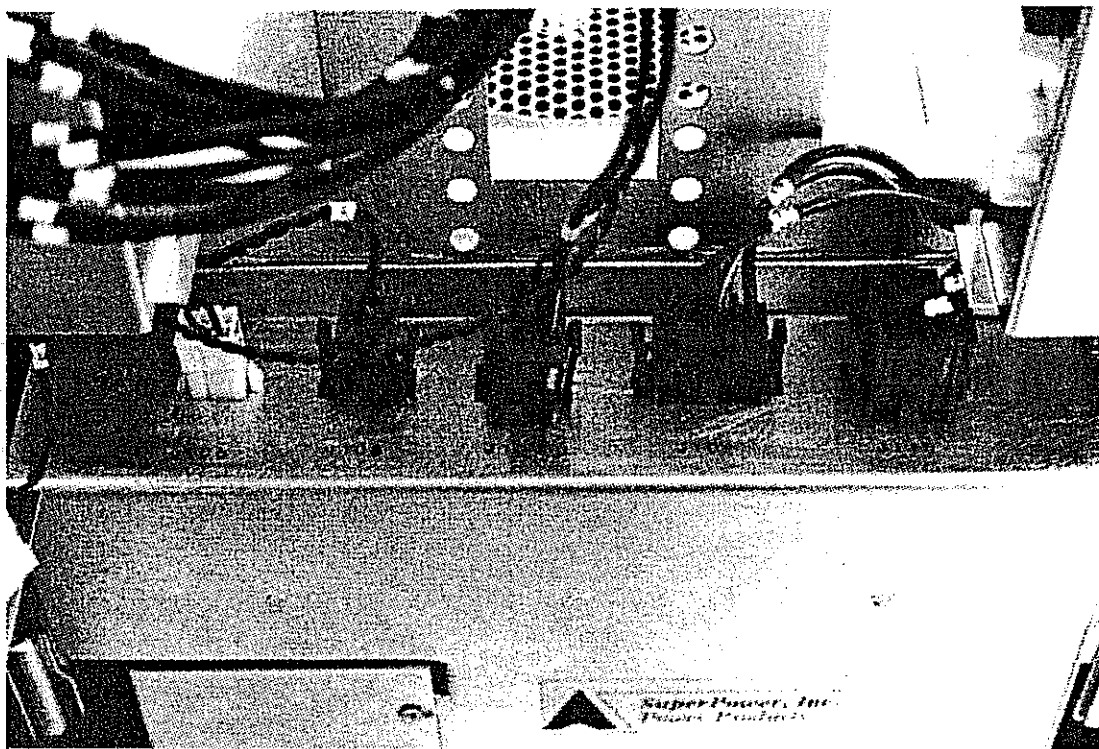

Figure 7-26. Capacitor Bank Connectors
8. Disconnect the connectors from the front and back of the capacitor bank. Refer to Figure 7-26.